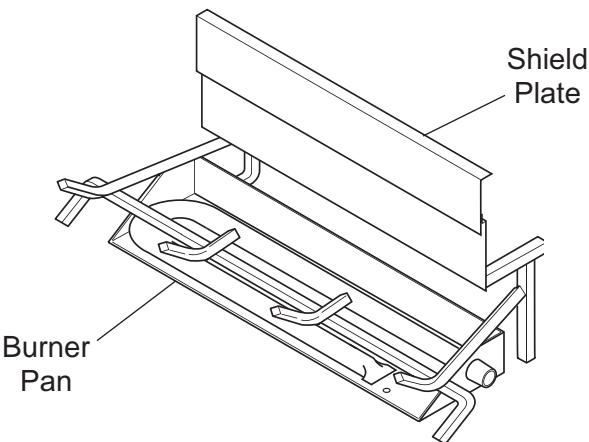

Figure 12 - Sliding Shield Plate Down Back of Burner Pan
1. Slide shield plate down back of burner pan. *See Figure 12.*